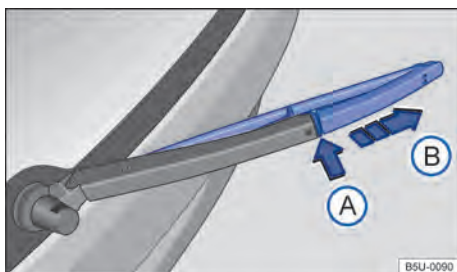

Fig. 166 Replacing the rear window wiper blades.
- Press and hold the release button → Fig. 166 ① at the same time pull off the windscreen wiper blade in the direction of the arrow.
- Remove the rear window wiper blade in the direction of the arrow ②.